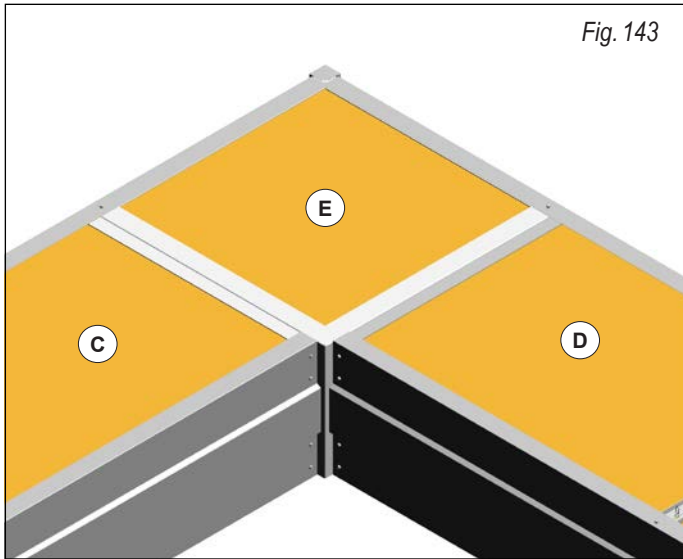
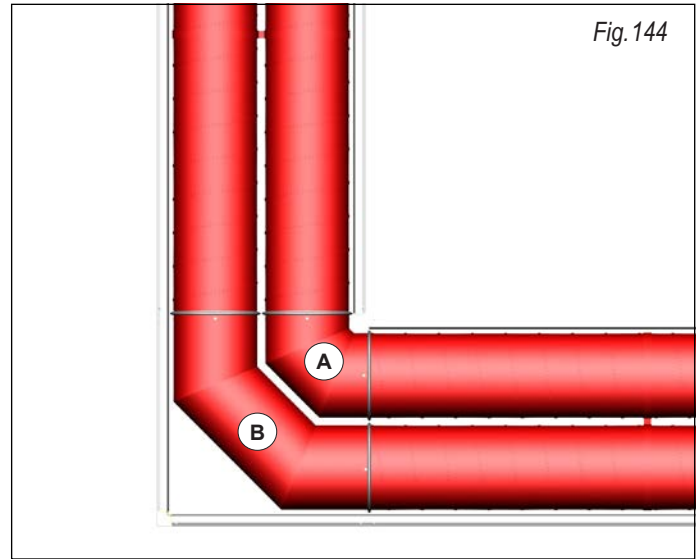

Fig. 143
Fig. 144
The elbow module (E) is shown in fig. 143 (axonometric view) at the end of installation, the elbow module at the end of installation seen from bottom looking up is shown in fig. 144.